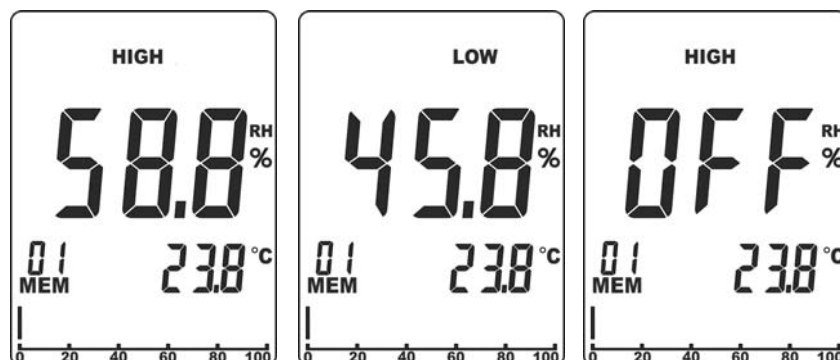

Fig. 5: Setting of alarm thresholds for %RH measurement
1. Press and hold keys **RH%** and **MODE/ZERO** at the same time for a few seconds. The symbol “HIGH” is shown on the top of the display (see Fig. 5 – left side).
2. Use the arrow keys ◀ or ▶ to set the value of Maximum threshold in range: **0.1% ÷ 99.9%**. In these conditions, the instrument will give out an **intermittent** sound when the measured value of humidity is higher than the set threshold. Select option “**OFF**” to disable the alarm (see Fig. 5 – right side)
3. Press key **MEM/ALM** to confirm and go to the setting of the Minimum threshold. The symbol “**LOW**” is shown on the top of the display (see Fig. 5 – middle).